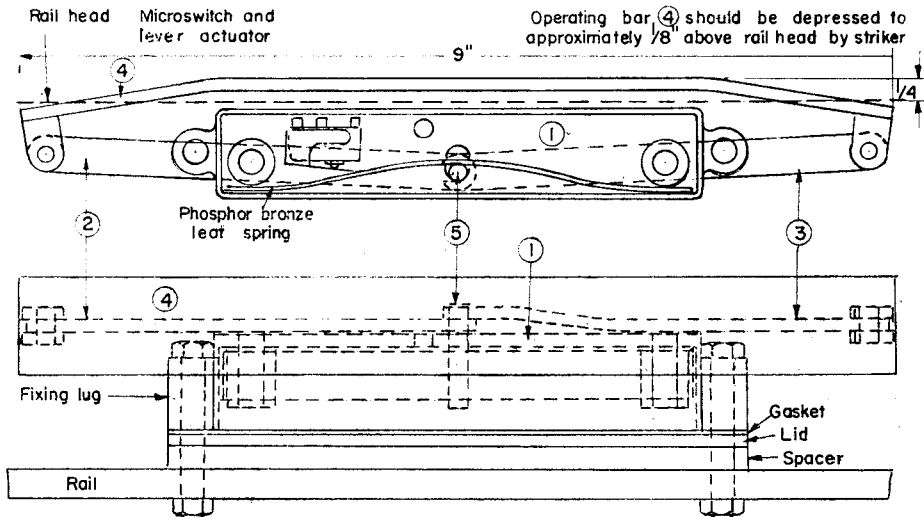

FIG 3 TRACK SWITCH ARRANGEMENT
Above, Fig. 3: Scunthorpe reader J. H. Lynam built this fine example of the 1½ in. scale Allchin traction engine. Below, Fig. 4: Driver's view of the Burrell s.c.c. crosshead
The engine in Fig. 3 was built by Jack Lynam of Scunthorpe, where it was adjudged the best model in the model engineering section of the Arts and Crafts Show.
To alleviate this difficulty, a track switch assembly (Fig. 3) was designed which itself has an effective operating length of about 8 in.; 16 in. striker bars have given reliable service. The micro-switch, a Burgess V4 with a spring-lever actuator, is mounted inside a box (1) which is provided with bearings for the levers (2) and (3). At their outer ends, the levers are pivoted between lugs on the underside of the operating bar (4); the inner end of one of the levers is fitted with a brazed-in pin (5) which engages a fork in the end of the other and